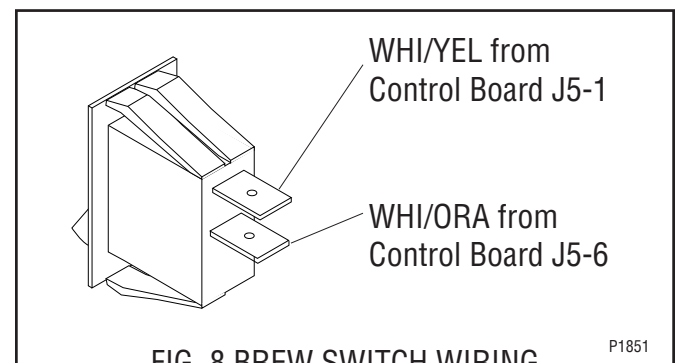

FIG. 8 BREW SWITCH WIRING
6. Refer to FIG. 8 when reconnecting the wires.